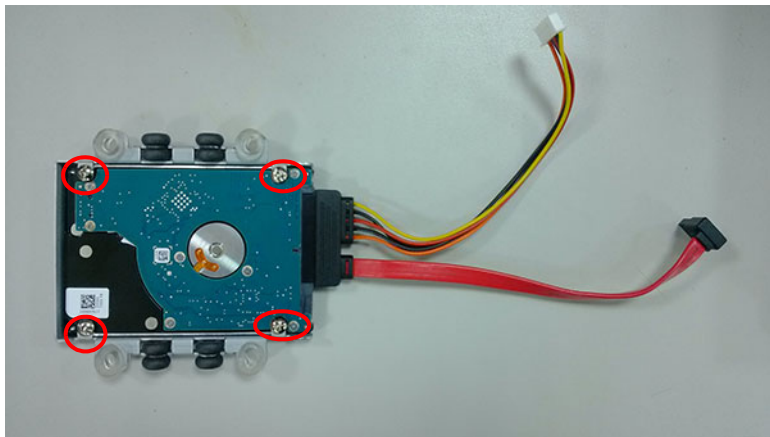

Figure 2.16
4. Take out the 4 screws, lock HDD onto the U type bracket (screws can be found in the accessory box, 4 x M3X4), and insert HDD cable into HDD module. (See Fig 2.16)